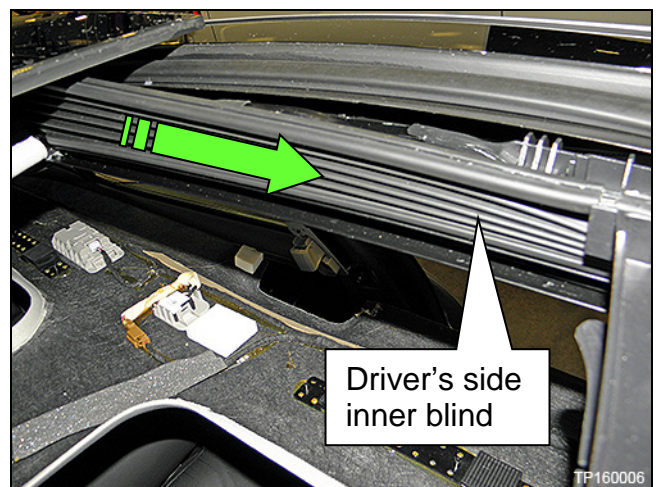

Figure 5
- c. Slide each inner blind toward the front of the vehicle and off of the Moonroof guides (Figure 5).
NOTE: Figure 5 is shown from inside the vehicle.